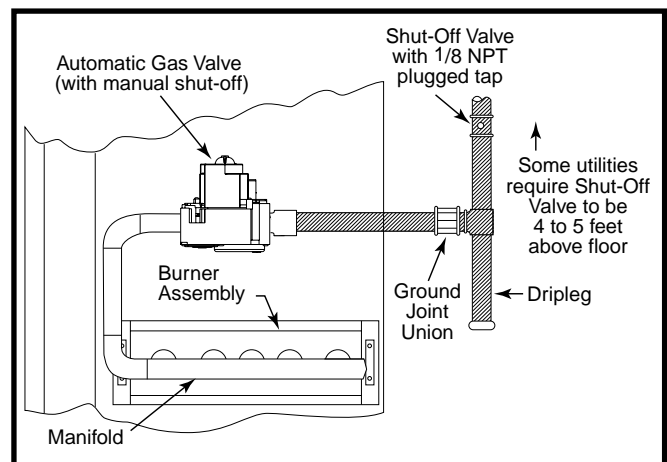

Figure 9. Typical Gas Hookup - Right Side Entry
- Some local codes require the installation of a manual main shut-off valve and ground joint union external to the furnace (Figure 9). The shut-off valve should be readily accessible for service and/or emergency use. Consult the local utility or gas supplier for additional requirements regarding placement of the manual main gas shut-off.
- A drip leg should be installed in the vertical pipe run to the unit (Figure 9).
This unit only has right side gas entry. When connecting the gas, provide clearance between the gas supply line and the entry hole in the unit's casing to avoid unwanted noise and/or damage to the unit. A typical gas service hookup is shown in Figure 9.